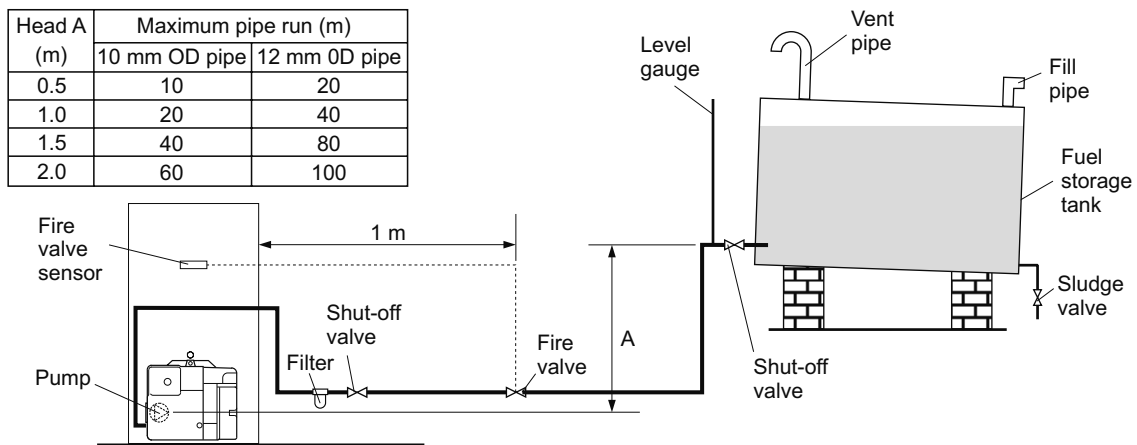

Fig. 2 - Single pipe system
- 5 A flexible fuel hose, adaptor and $\frac{1}{4}$ " BSP isolation valve are supplied loose with the boiler for the final connection to the burner. If a two pipe system or 'Tiger Loop' type de-aerator is used, an additional flexible fuel hose (600 mm) and $\frac{3}{8}$ " to $\frac{1}{4}$ " BSP male adaptor are available to purchase from Grant Engineering (UK) Limited, Part No. RBS104. A de-aeration device should not be fitted within the boiler casing.
4.4.3 Single pipe system - (See Fig. 2)